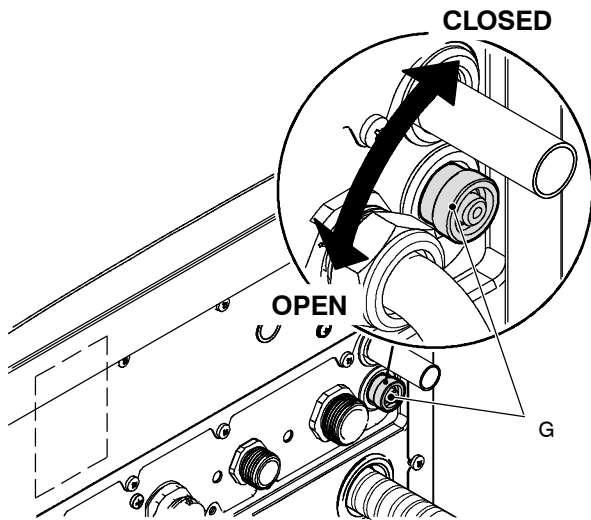

Fig. 2.10
- 3 Open the drain tap *G* (Fig. 2.10 combi or Fig. 2.11 only c.h.) until the boiler is completely emptied.